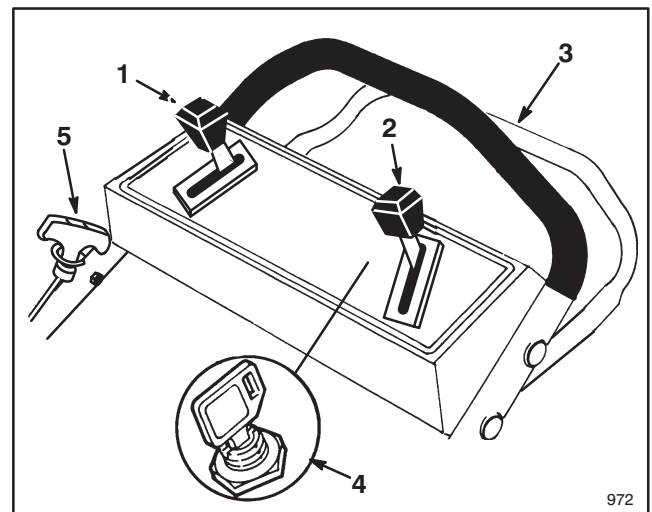

Figure 11
CONTROLS—Key switch (electric start model), throttle, ground speed control, self-propelled control bar and fingertip starter are on upper handle (Fig. 11).
3. KEY-ELECTRIC STARTING—Turn key to  (START) and release when engine begins running. When engine starts, remove throttle from  (CHOKE) and regulate engine speed as desired. If the battery's charge is too weak to start the engine, the engine can be started with the recoil starter (Fig. 11).